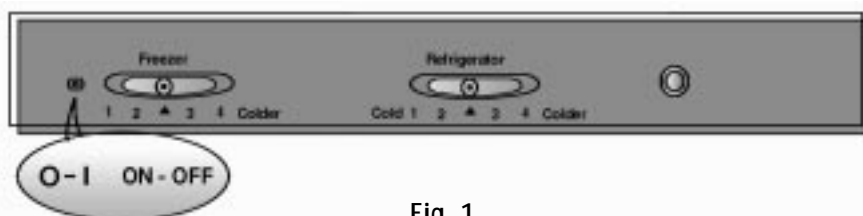

Fig. 1
1. Temperature control (sliders) (Fig. 1)